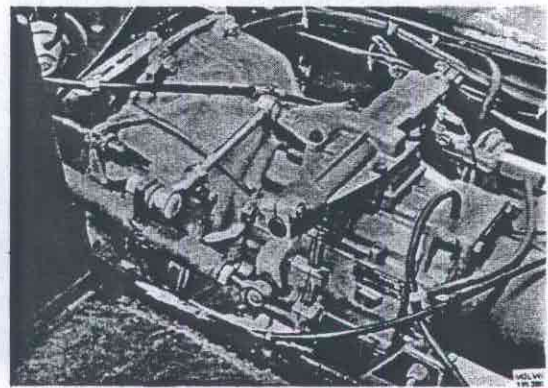

Fig. 43-40. Gear shift with cross stay
5. Remove the cross stay, Fig. 43-40, to the gear shift bar and remove the bar from the gearbox lever.